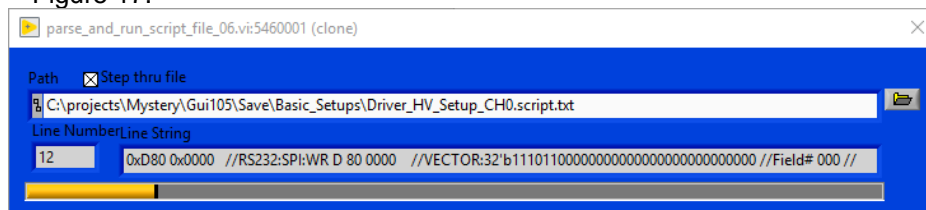
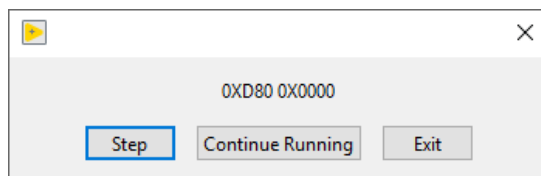

Figure 16: Load From File
Figure 17: Load from File Step/Continue
- i. Selected: Step through the selected setup file selected and will wait between each write command for the user to continue. Shown below in Figure 16 and Figure 17.